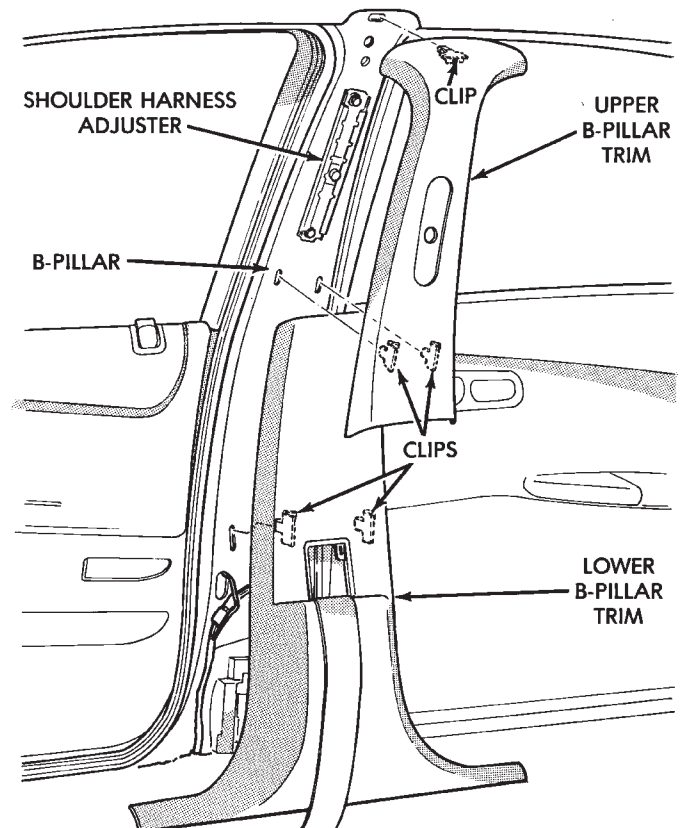

Fig. 58 B-Pillar Upper Trim
- (3) Separate turning loop from adjuster.
- (4) Disengage clips holding upper trim to B-pillar (Fig. 58).
- (5) Separate B-pillar trim from vehicle.